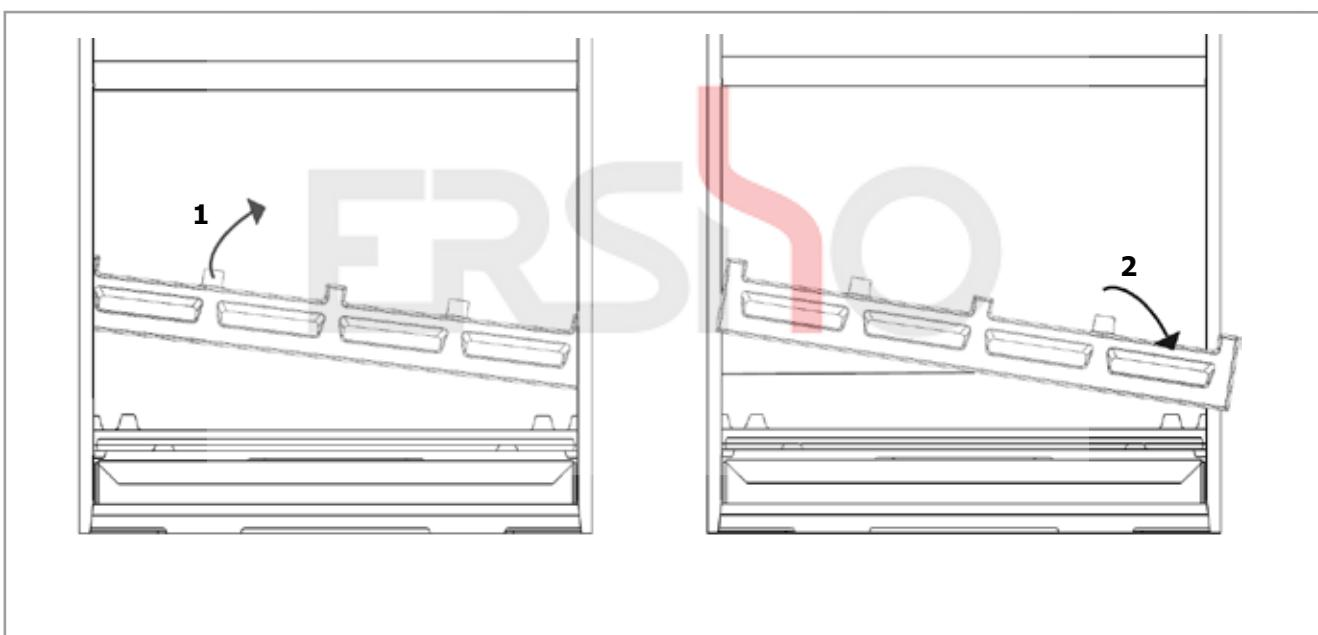

Figure 8 - Removing the fuel retainer
- Ensure that the fuel retainer is installed correctly (fig. 8).